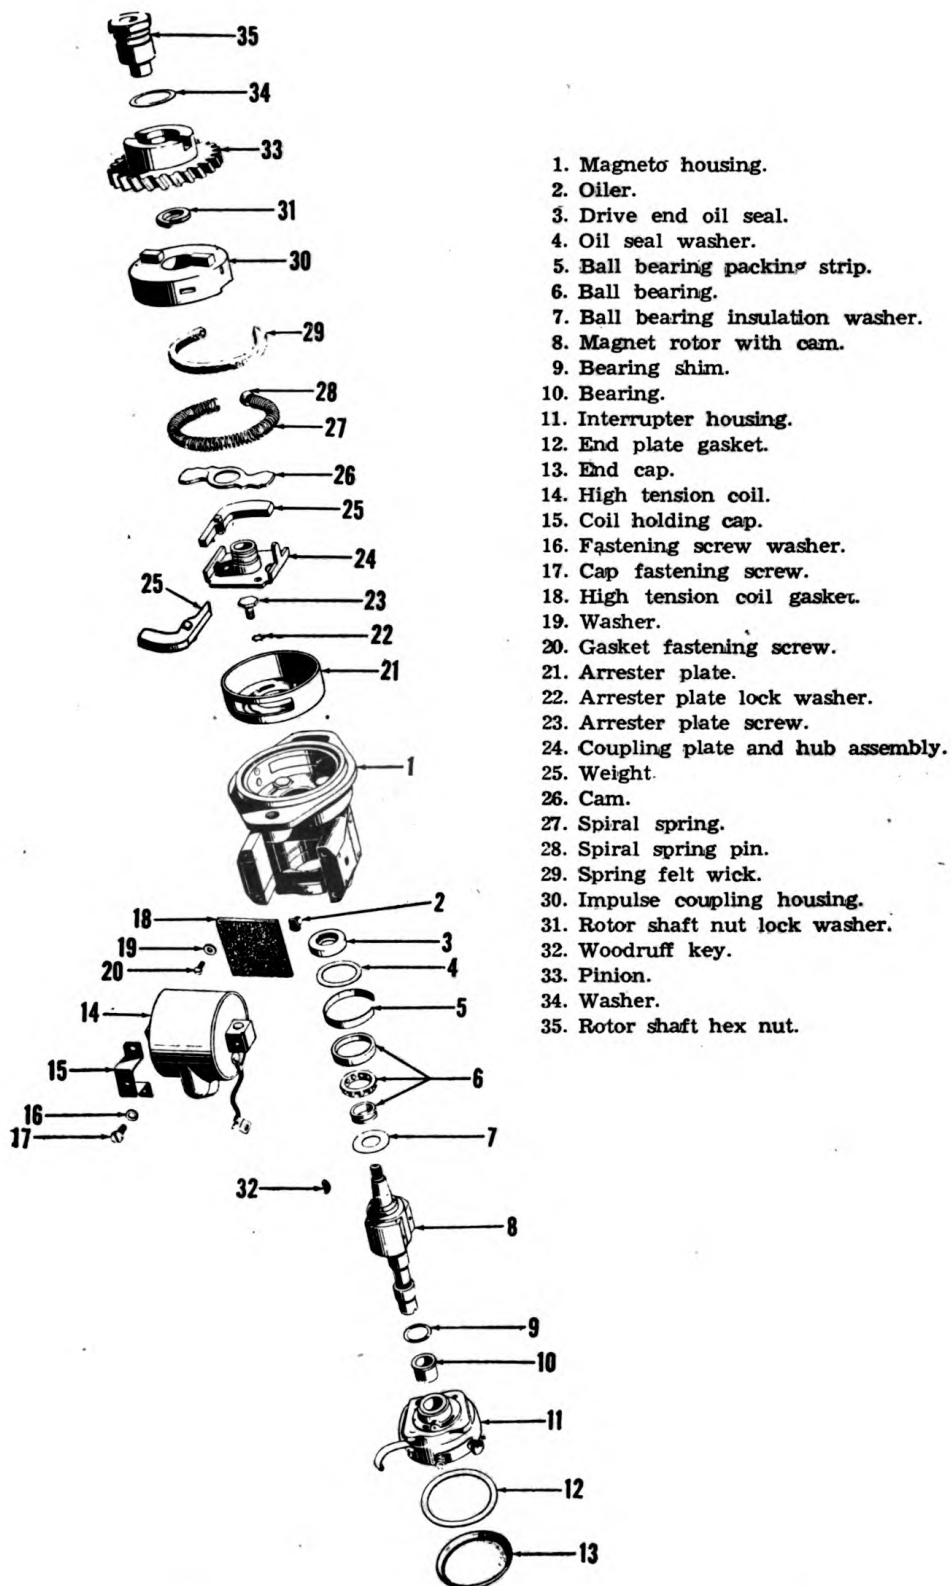

Figure 20. Exploded view of magneto and impulse coupling.
b. Remove the hex nut (35, fig. 20), washer (34), pinion (33), and key (32) from the end of the rotor shaft. Remove lock washer (31), housing (30), wick (29), pin (28), spring (27), cam (26), weights (25), and plate (24) from the rotor shaft and arrester plate (21). Remove the screws (23) and washers (22) which attach the arrester plate (21) to the magneto housing, and remove the plate (21).
c. Remove the screws (20), washers (19) gasket (18), cap screws (17), cap screw washer (16), caps (15), and coil (14) from the magneto housing.
. g. Remove bearing (10, fig. 20) from the interrupter housing (11). Remove shim (9), rotor (8), washer (7), bearing (6), packing strip (5), washer (4), oil seal (3), and oiler (2) from the magneto housing (1).
(1) If remagnetization is necessary, use magnetizing stand TSE 5210 or equivalent. The cast "Alnico" magnets used in this magneto are special magnets with a great amount of magnetic strength, thus requiring a magnetizer with sufficient strength to fully saturate the magnets.
(2) The following is the procedure to be followed in magnetizing the MVA1A on the American Bosch magnetizing stand TSE 5210: It is essential to remagnetize the magnet in the same magnetic direction as originally charged; polarity of magnetizing stand and magnet can readily be determined by a compass, and the south pole of the magnet should always be placed on the north pole of the magnetizing stand. If no compass is available, hold magnet rotor in a vertical position to the magnetizing stand, approximately 8 inches from the charger. Make electrical contact with foot switch, rotor will locate itself for proper recharging position, release foot switch, place magnet rotor in the curved jaws TSE 5257 on the magnetizing stand, and apply three charges of 4 to 5 seconds duration each.
a. Place the housing (1, fig. 20) on a clean bench with the impulse coupling side down, and assemble the oiler (2), oil seal (3), washer (4), and packing strip (5) to the interrupter end of the housing. Assemble the bearing (6), and washer (7) to the rotor (8). Place rotor assembly in housing. Place shim (9) over end of rotor. Press bearing (10) into the interrupter housing (11).
(21). Place the button (22) over the terminal (14), and assemble lock washer (23), nut (24), washer (25), and nut (26).
d. Place springs (27, fig. 19) in position on housing, and secure with washer (28) and screw (29). Place gasket (12, fig. 20) and cap (13) in position on housing and secure with springs (27, fig. 19).
e. Place coil (14, fig. 20) in position, and secure with caps (15), washers (16), and screws (17). Place gasket (18) on bottom of magneto, and secure with washers (19) and screws (20).
f. Place plate (21, fig. 20) in position in housing (1), and secure with two washers (22) and screws (23). Position plate (24) over rotor shaft and into plate (21). Assemble weights (25), cam (26), spring (27), spring pin (28), wick (29), housing (30), and washer (31). Place key (32) in rotor shaft, and assemble pinion (33), washer (34), and nut (35).